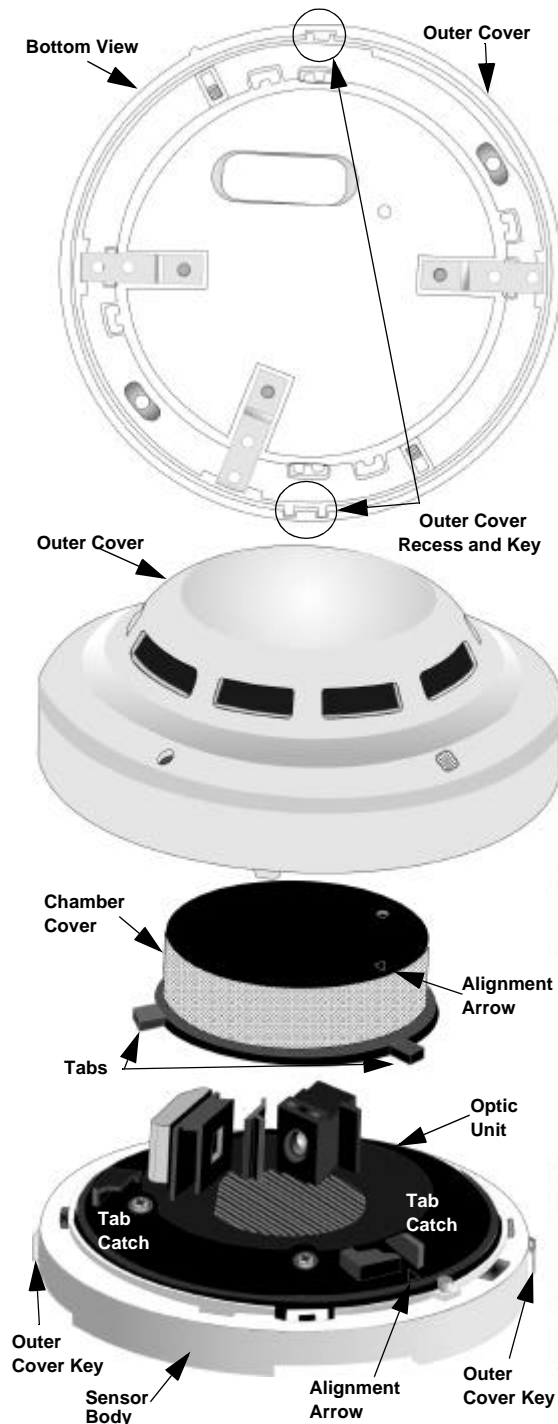
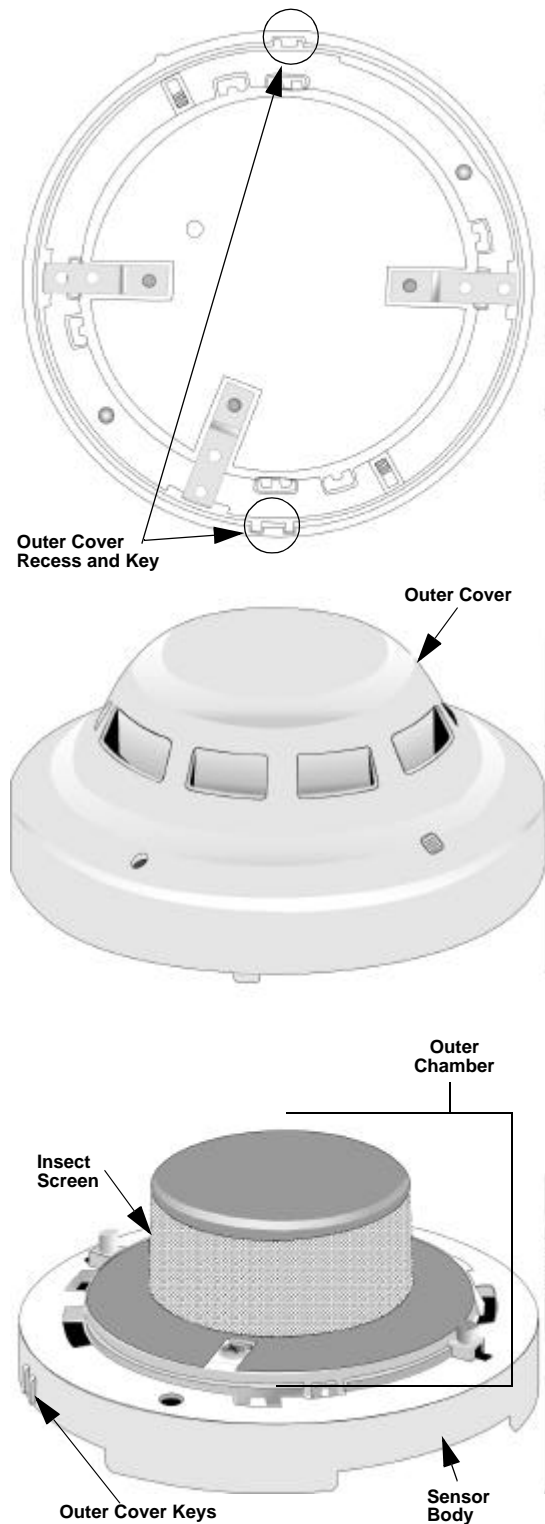

Figure 2: Photoelectric Sensor Components
Figure 3: Ionization Sensor Components
The following instructions explain how to clean the photoelectric smoke sensor. Figure 2 identifies the components of the sensor.
4. Gently twist the Chamber Cover counter clockwise until the Cover Tabs clear the Tab Catches. See Figure 2.
8. Replace the Chamber cover over the optical unit by aligning the alignment arrows and gently turning clockwise until the chamber cover snaps in place. See Figure 2.
The following instructions explain how to clean the ionization smoke sensor. Figure 3 identifies the components of the sensor.
3. Vacuum the outer chamber and insect screen. Remove any foreign matter from the sensor. See Figure 3.
2. Align the outer cover recesses with the outer cover keys. (See Figure 2 and Figure 3.)